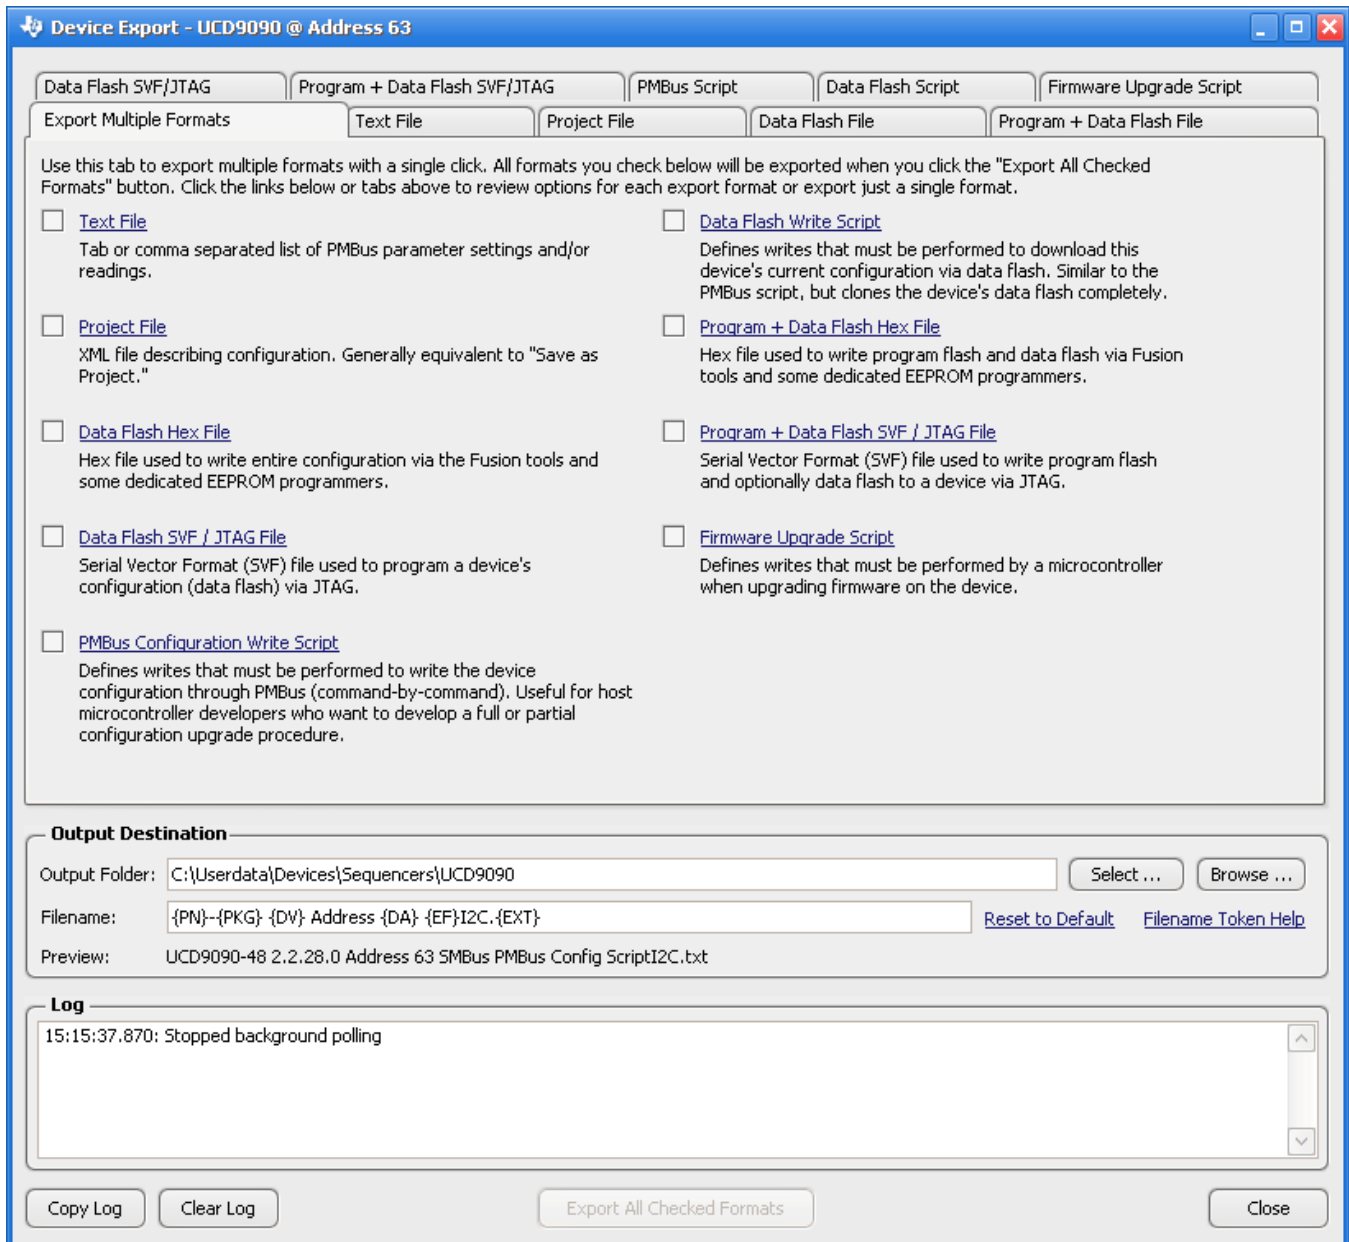

Figure 31. Fusion GUI Device Configuration Export Tool
- Another in-circuit programming option is for the *Fusion GUI* to create a data flash image from the configuration file (Figure 31). The configuration files can be exported in Intel Hex, Serial Vector Format (SVF) and S-record. The image file can be downloaded into the device using I2C or JTAG. The *Fusion GUI* tools can be used on-board if the *Fusion GUI* can gain ownership of the target board I2C bus. It is recommended to use Intel Hex file or data flash script file for production programming because the GPIOs are under